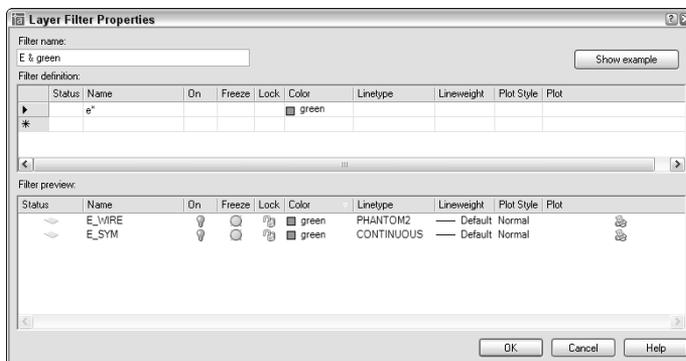

Figure 11-14: The Layer Filter Properties dialog box.
To create a properties filter, click the New Property Filter button to open the Layer Filter Properties, shown in Figure 11-14. Notice that the Filter Definition pane at the top has the same columns as the Layer Properties Manager.
- ♦ To specify a filter for a named property, such as the name or linetype of a layer, you can use wildcards. The two most common wildcard characters are * (asterisk), which replaces any number of characters, and ?, which replaces any single character. Figure 11-14 shows the layer name filter set to *e**. The color is also specified as green. Therefore, the filter includes only layers whose names start with the letter *E* and are green.